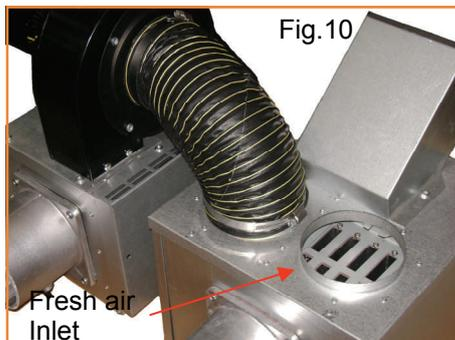

Fig.10
a) Fig. 10 shows the fresh air inlet spigot on the heat exchanger.